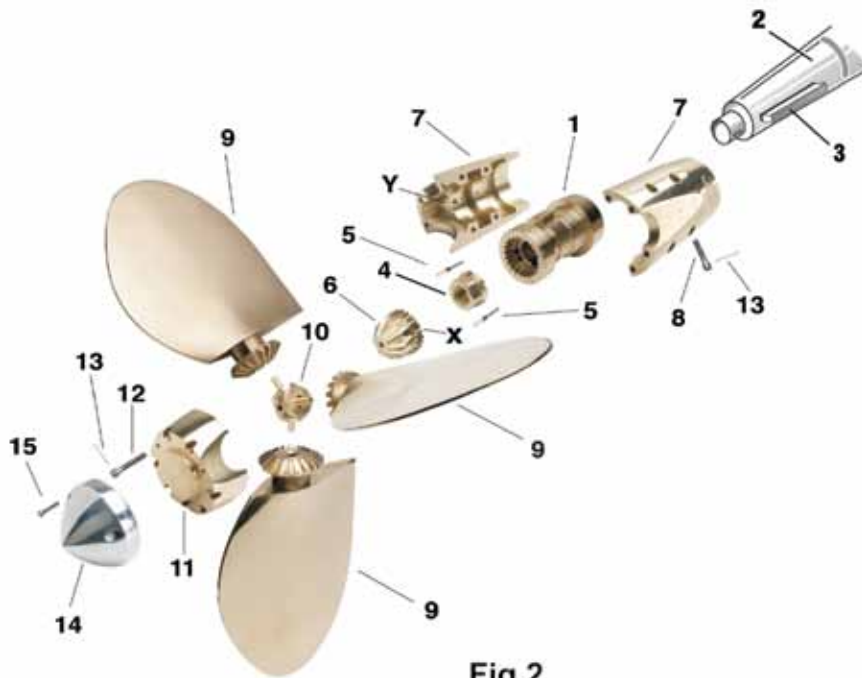
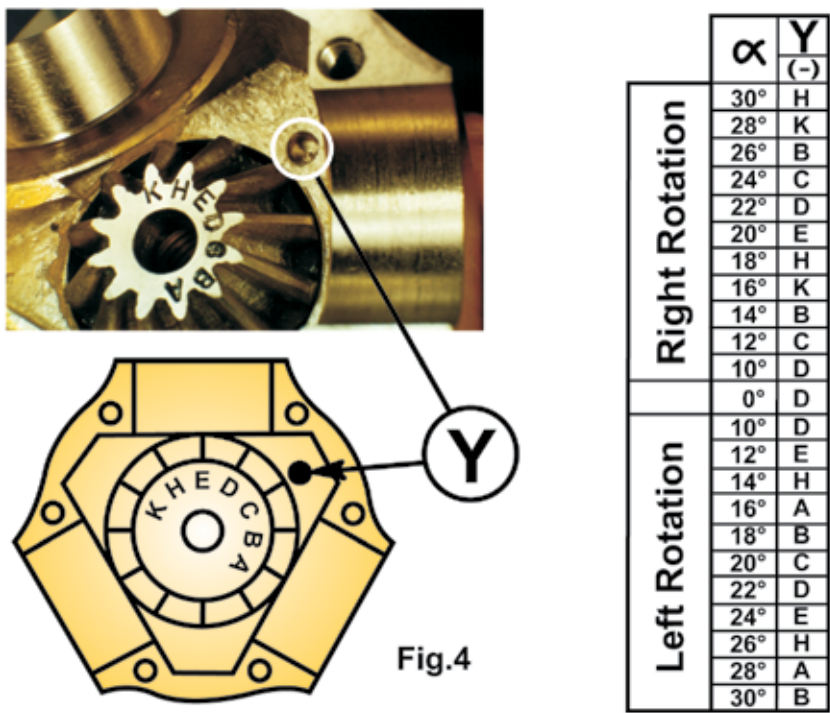

Fig.2
Fig.4
Make sure that if you receive more than one propeller that do not interchange parts. Each propeller is individually balanced and if interchanged it will be put out of balance. Please use figure 2 in the instruction book for part number references.
E) Locate the mark on the top inside of the spinner (a small drill hole). This is the “Y” mark in figure 2. Rotate the spinner until the “Y” mark on the spinner coincides with the correct letter on the top of the central cone gear. This letter is determined from the chart in figure 4. Fill the top of the spinner with grease.
- The numbers above are from Figure 2 at the beginning of this MAX PROP® Manual.